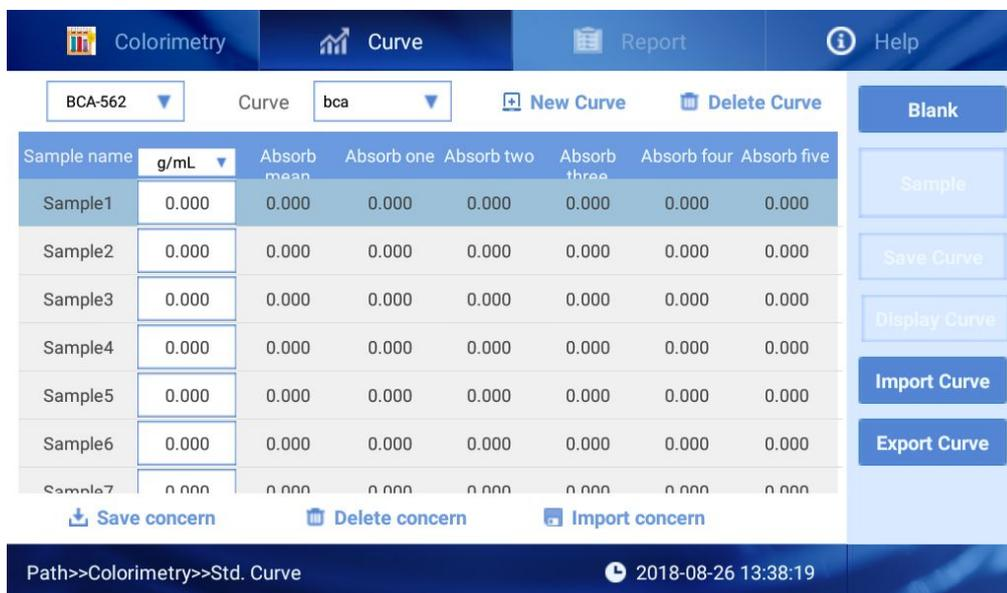

Fig 4.17 Curve interface to input concentration value
① Click **New Curve**, Input curve name, and click “Sure”, then you will come to standard sample table for curve, see Fig 4.17:
③ Then select a standard sample as Fig 4.17 and then click “Blank” and “Sample” in turn to measure the absorbance of standard sample.